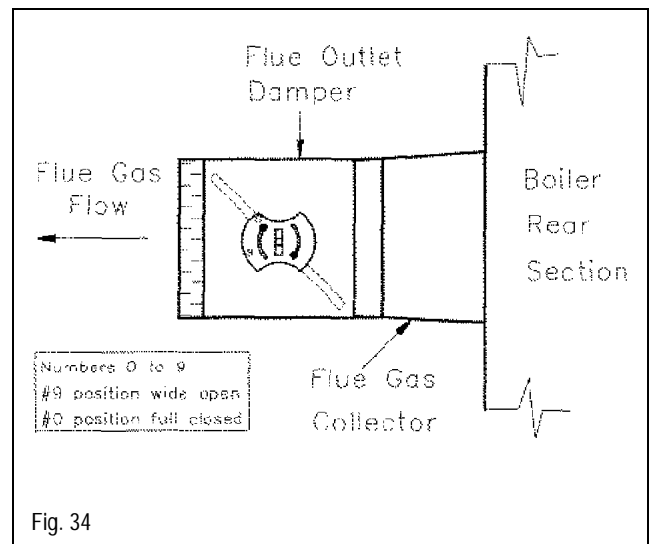

Fig. 34
- During burner start-up procedure, set the flue outlet damper in a fixed position to ensure a +.10 In. W.C. breaching pressure measured before the stack damper. Lock stack damper blade in place (Fig. 34).